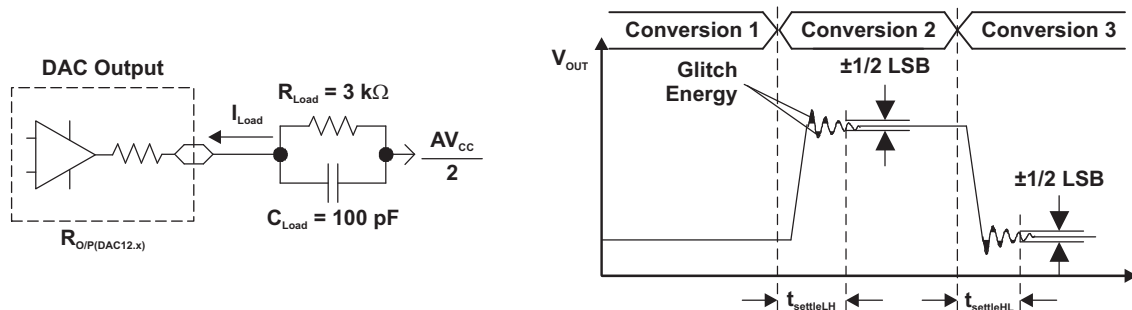
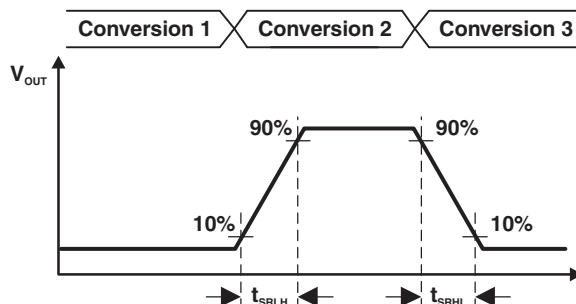

Figure 5-19. Settling Time and Glitch Energy Testing
Figure 5-20. Slew Rate Testing
VREF = VCC, DAC12IR = 1 (see Figure 5-19 and Figure 5-20), over recommended ranges of supply voltage and operating free-air temperature (unless otherwise noted)
(1) RLoad and CLoad connected to AVSS (not AVCC/2) in Figure 5-19.
(2) Slew rate applies to output voltage steps ≥ 200 mV.